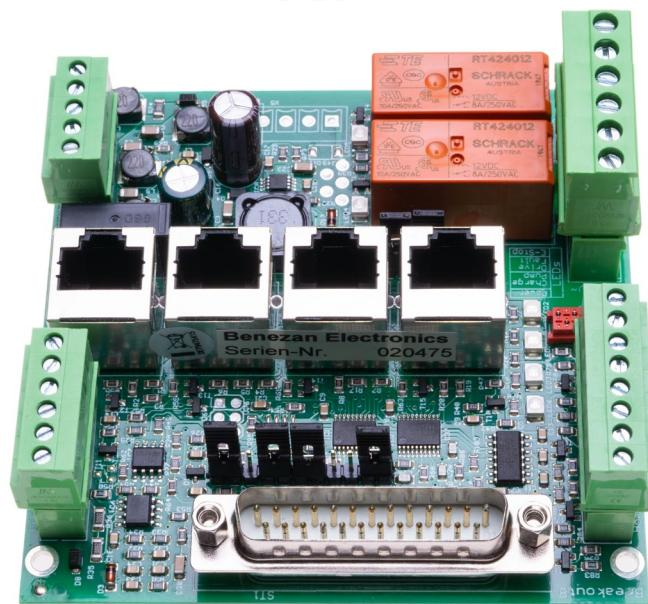

Fig. 9: Jumpers for use with Estlcam
- 1-2, 4-5, 6-7, 10-11 (see Fig. 9)